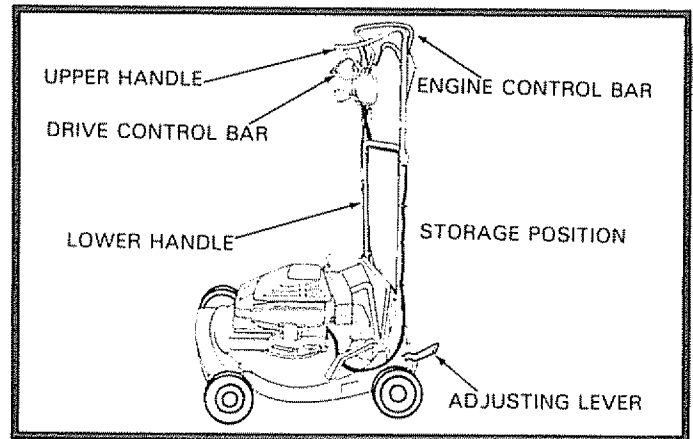

FIG. 29
- You can stand your Lawn Mower Handle up for storage as shown in Fig. 29.
- To stand your Handle up for storage, push in on the Adjusting Levers until the Levers clear the Pins then raise Handle until it locks in an upright vertical position (See Figs. 29 & 30).